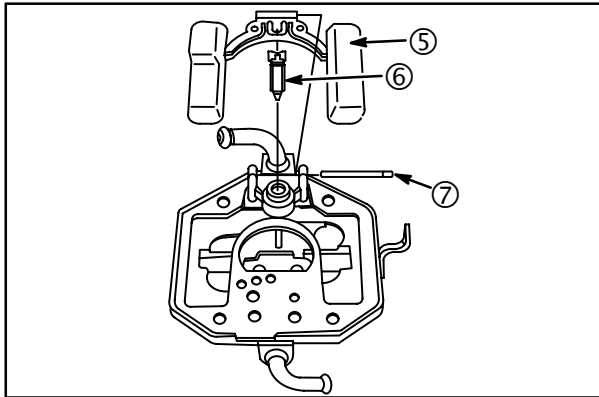

Fig. 99
3. Remove float (5) and fuel inlet needle (6), **Fig. 99**.